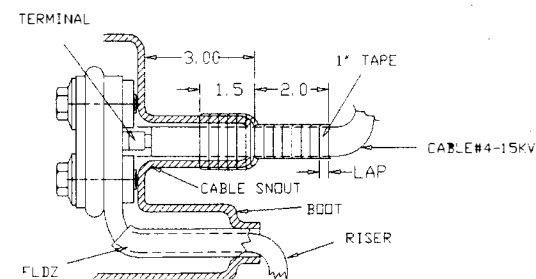

FIG. 10: TYPICAL JOINT WITH CABLE/BOOT CONNECTIONS
4. APPLY ONE LAYER OF INSULATING TAPE (1.00 X .030) USING 2/3 LAP AND STARTING 1.5' UP CABLE AND EXTEND TO 1.0' OVER END OF BOOT SNOUT PER FIG. 10.
5. APPLY A SECOND LAYER OF INSULATING TAPE (1.00 X .030) USING 2/3 LAP AND EXTENDING 0.50 INCH MINIMUM BEYOND EACH END OF FIRST LAYER OF INSULATING TAPE PER FIG. 10.